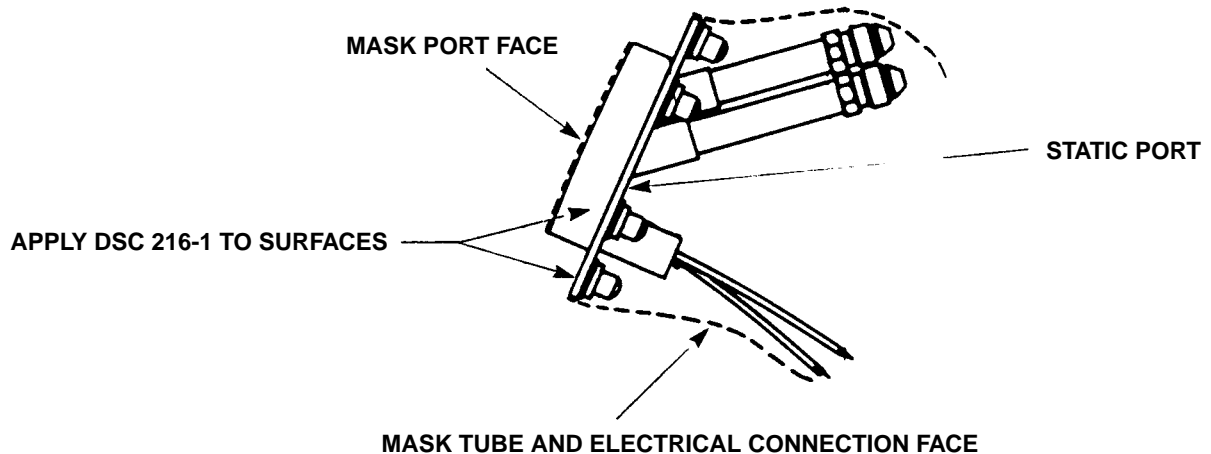

FIGURE 2 - APPLICATION OF DSC 216-1 FLUOROCARBON DISPERSION COATING
- Step 1. Mask the front (port) and rear (tube and electrical connection) faces using masking tape (see Figure 2).